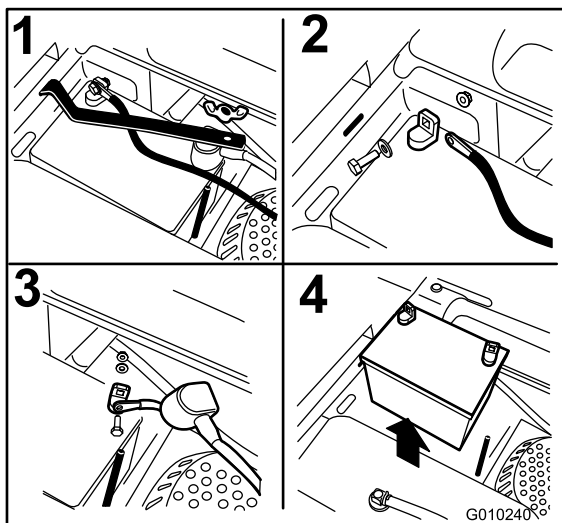

Figure 46
3. Remove the wing nut securing the battery clamp (Figure 46).
4. Remove the clamp (Figure 46).
5. First disconnect the negative battery cable (black) from the negative (-)(black) battery terminal (Figure 46).
6. Slide the red terminal boot off the positive (red) battery terminal and remove the positive (+)(red) battery cable (Figure 46).
1. Position battery in the tray with the terminal posts opposite from the fuel tank (Figure 46).
4. Secure the cables with 2 bolts, 2 washers, and 2 locknuts (Figure 46).
6. Install the clamp and secure it with the wing nut (Figure 46).